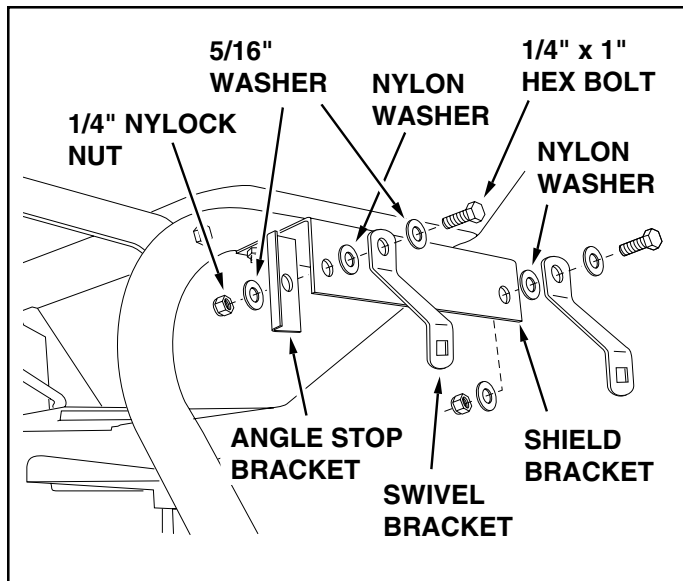

FIGURE 14
24. Attach an angle stop bracket and a swivel bracket to the rear hole in the R.H. shield bracket using a 1/4" x 1" hex bolt, two 5/16" washers, a nylon washer and a 1/4" Nylock nut. Place the angle stop bracket on the inside and the swivel bracket on the outside. **Tighten** the locknut so that the swivel bracket can pivot freely. See figure 14. Repeat step on L.H. shield bracket.
25. Attach a swivel bracket to the front hole in the R.H. shield bracket using a 1/4" x 1" hex bolt, two 5/16" washers, a nylon washer and a 1/4" Nylock nut. **Tighten** the nut so that the swivel bracket can pivot freely. See figure 14. Repeat step on L.H. shield bracket.